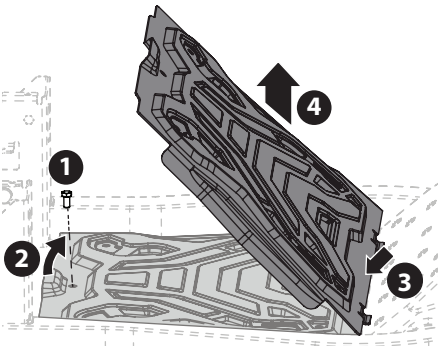

Fig. 33
1. Using the multi-tool (if equipped) or a 1/2 inch socket, remove the hex screw that secures the floor panel in place (1 in Fig. 33).
2. Carefully lift the rear of the floor panel (2 in Fig. 33).
3. Slide the floor panel rearward to free the front of the floor panel (3 in Fig. 33).
4. Lift it off the tractor (4 in Fig. 33).